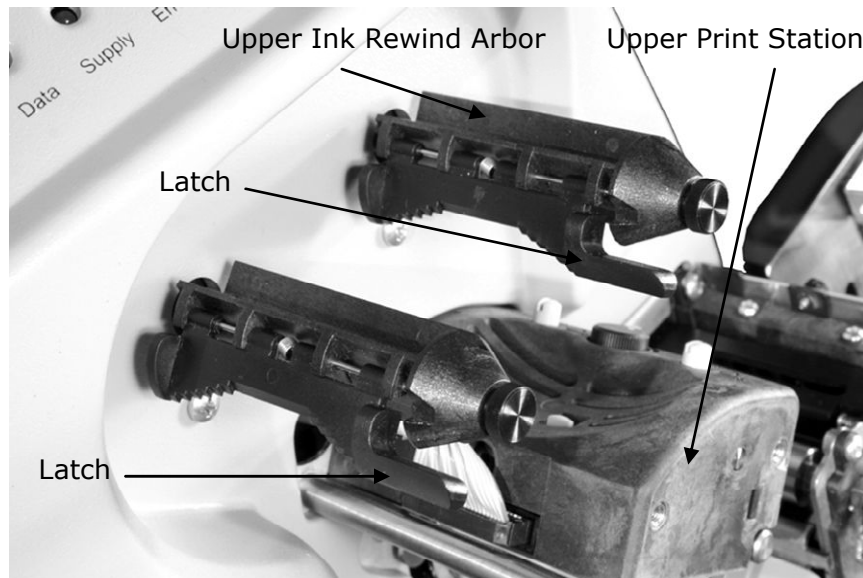

Figure 7. Upper Ink Supply and Print Stations - Unloaded
- b. As you slide the core onto the arbor, you will hear a clicking noise as the latch ratchets onto the core. When the core is centered on the arbor, it will stop. See Figure 7.